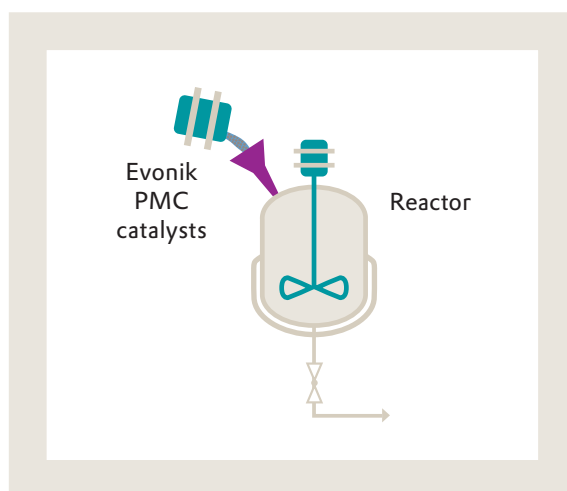

Figure 2: direct charging of the reactor
3. Adding catalyst directly into the reactor (Figure 2):